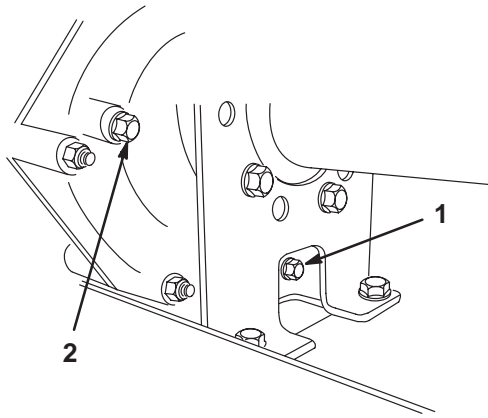
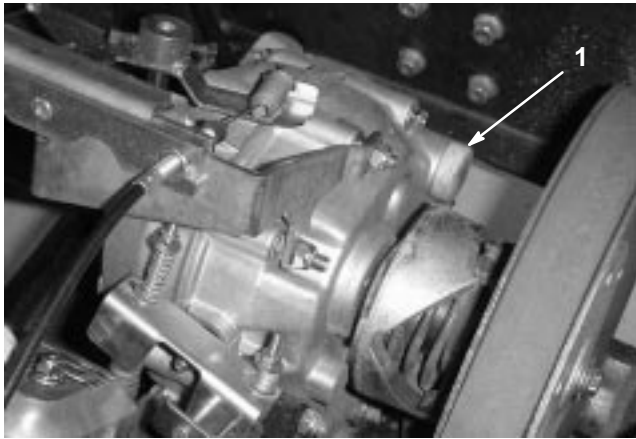

Figure 31
Figure 32
2. Remove the drain plug from the right side of the reservoir (Fig. 31) and let the fluid flow into a drain pan. Install and tighten the plug when the fluid stops draining.
- 3. Fill the reservoir (Fig. 32) with approximately 1-1/2 qt. (1.4 liters) of SAE 10W30 motor oil or until the oil level is at the bottom of the level indicator hole (Fig. 31).